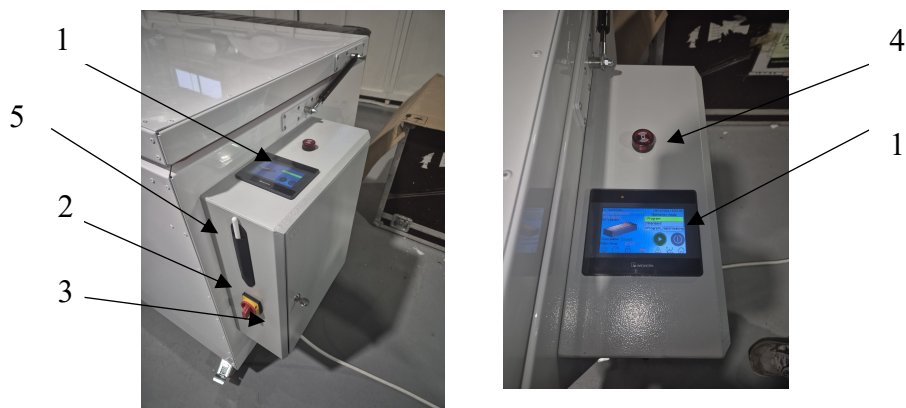

Figure 4 – A panel with a toggle switch and a controller.
An electrical panel is mounted on the outer side panel of the oven body. This panel includes a controller and a light and sound alarm on the top, as well as a toggle switch and a stylus on the side. (Fig. 4).
- 7 On the control panel (Fig. 4), set the toggle switch to position 1 (one).